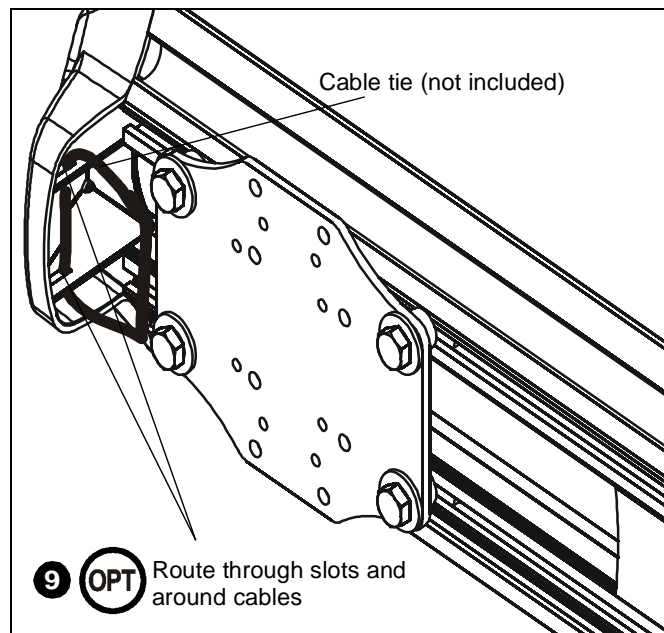

Figure 59
9. **(Optional)** Cables can be tied to inside of mount's front cover using cable ties (not included). Route cables near front cover and wrap cable tie through slots on front cover and around cables. (See Figure 59)